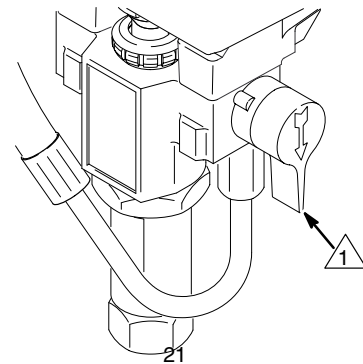

Fig. 11
5. Open the pressure drain valve. See Fig.11.